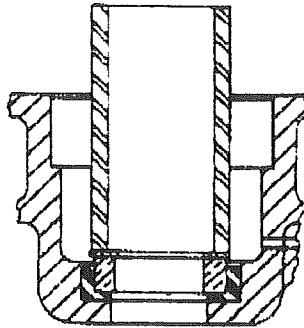

FIGURE 8
1. Clean cavity in pump adapter. Wet rubber seat ring with soapy water, and push stationary part of seal into cavity, using 1" pipe nipple for pressing. Be sure to use a cardboard washer or disc on the lapped, polished seal surface to prevent scratching. It is important that this part be fully seated, Figure 8, Page 10.